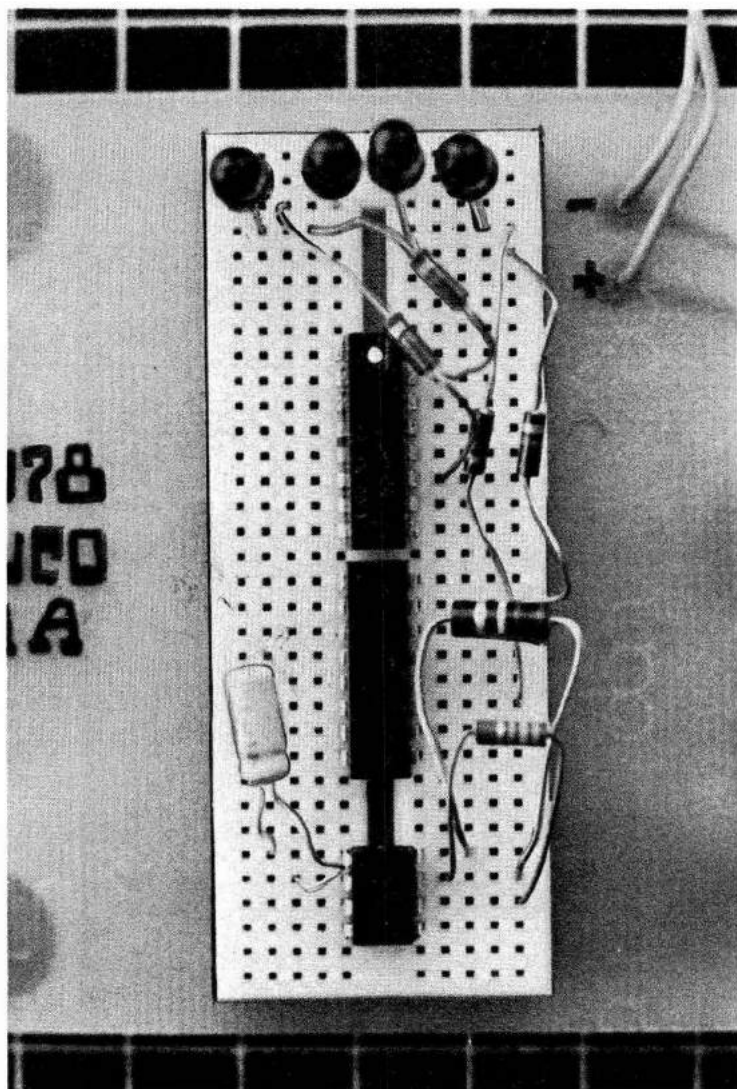

Fig. 16-11. Experiment socket with parts mounted.
2. Place the ICs and LEDs in the approximate positions shown in Fig. 16-11. Be careful not to tie contacts together which are not intended to be tied together. Figure 16-12 shows the completed unit with parts mounted but not wired.